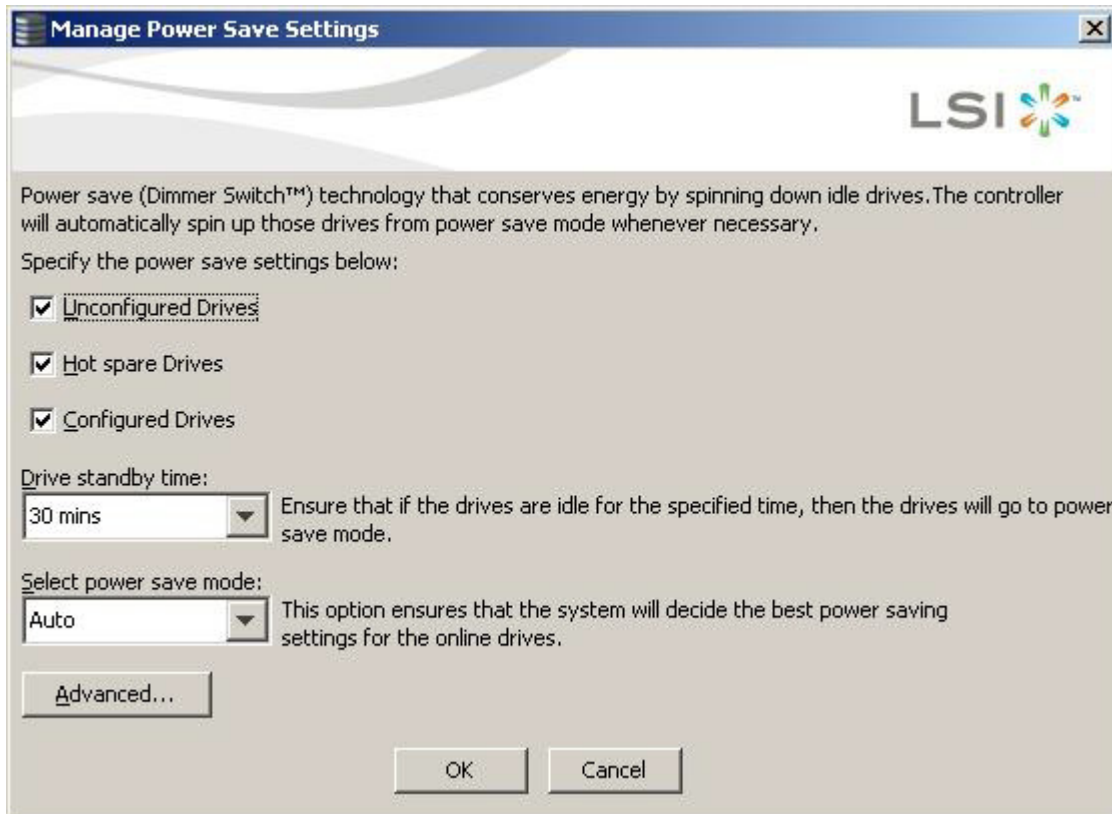

Figure 193 Manage Power Save Settings Window
1. Click the **Advanced** button in the **Manage Power Save Settings** window as shown in Figure 193 on page 308. The **Power Save Settings - Advanced** window is displayed, as shown in the following figure.